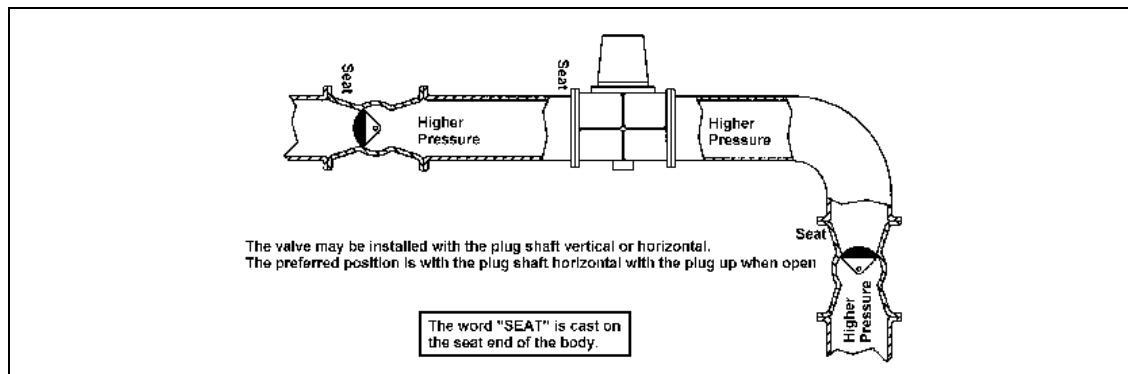

Figure 1 — Liquids and Gases
2. Install the valve as shown in Figure 1.